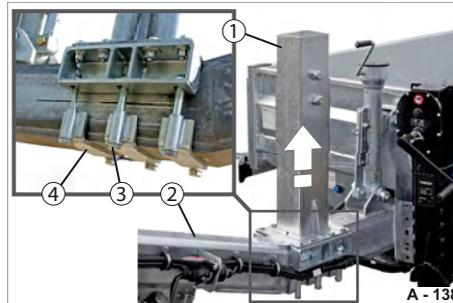

Fig. 198 Disassembling the mount
- ▶ Release the bolt connection (Fig. 198/3) on the drawbar (Fig. 198/2) - grip the clamp (Fig. 198/4) firmly.
- ▶ Lift the mount (Fig. 198/1) off the drawbar.